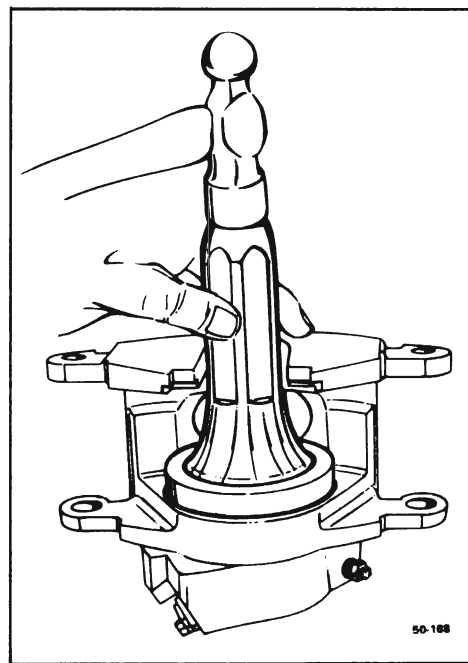

Figure 50-44--Seating Boot
will require a force of 50 to 100 pounds. Position the OD of the boot in the caliper counterbore and seat with tool No. J-22904. See Figure 50-44.
2. Check the boot installation to make sure that the retaining ring molded into the boot is not bent and that the boot is installed fully -- below the caliper face -- and evenly all around. See Figure 50-44. Otherwise dirt or moisture may enter the bore and cause damage or corrosion.